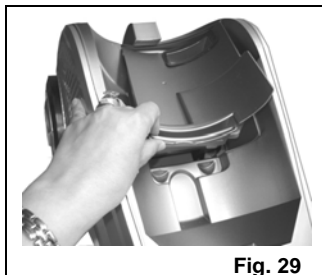

Fig. 29
7. Turn the cyclonic chamber clockwise until the solid triangle on the cyclonic chamber is over the outlined triangle on the dust cup. (Fig. 29)
3. Remove the pre-motor filter cover. (Fig. 29)